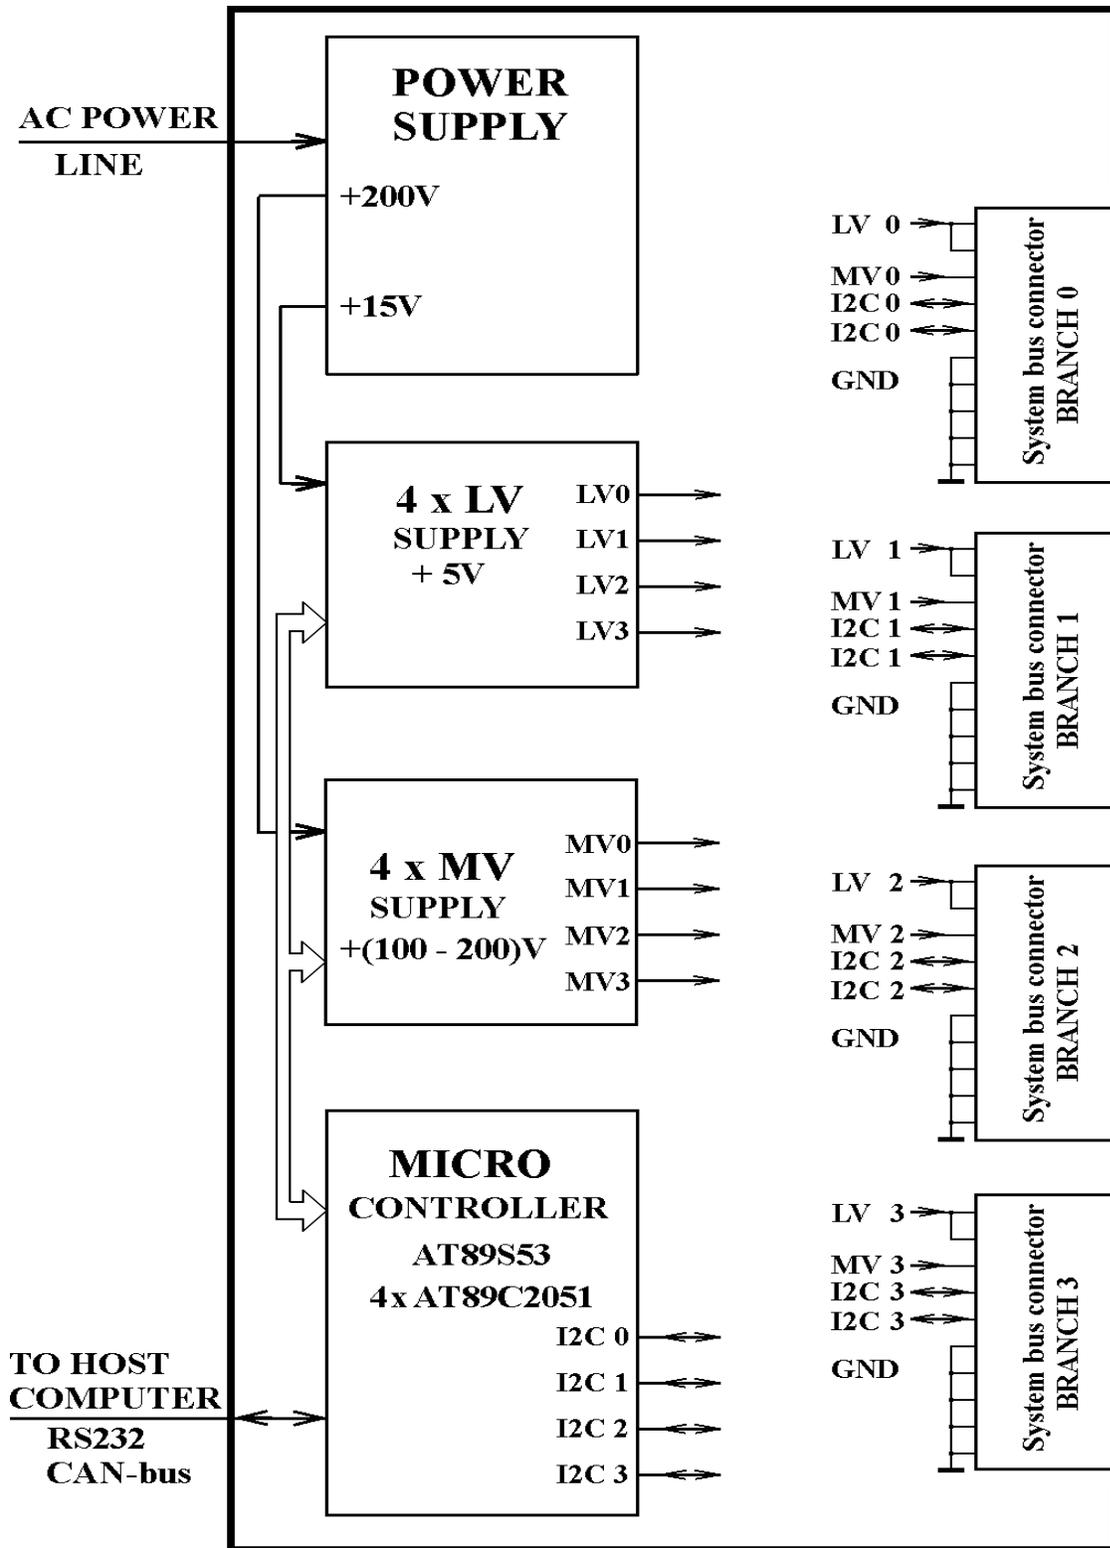

Fig.2 Functional circuit of System Module.
1. System modules (SM), serving up to 508 PMTs each (four branches with up to 127 cells each). The system modules are made as cells in the standard EUROMECHANICS-6U 40-mm width.
The system module (SM) (Fig.2) serves up to 508 high-voltage cells (HVC). It feeds the HV cells by the supply voltages and communicates with them via the system bus. At the same time the system module is controlled by the master computer via either serial RS232 line or CAN bus. The system module also performs all necessary checkup tests.